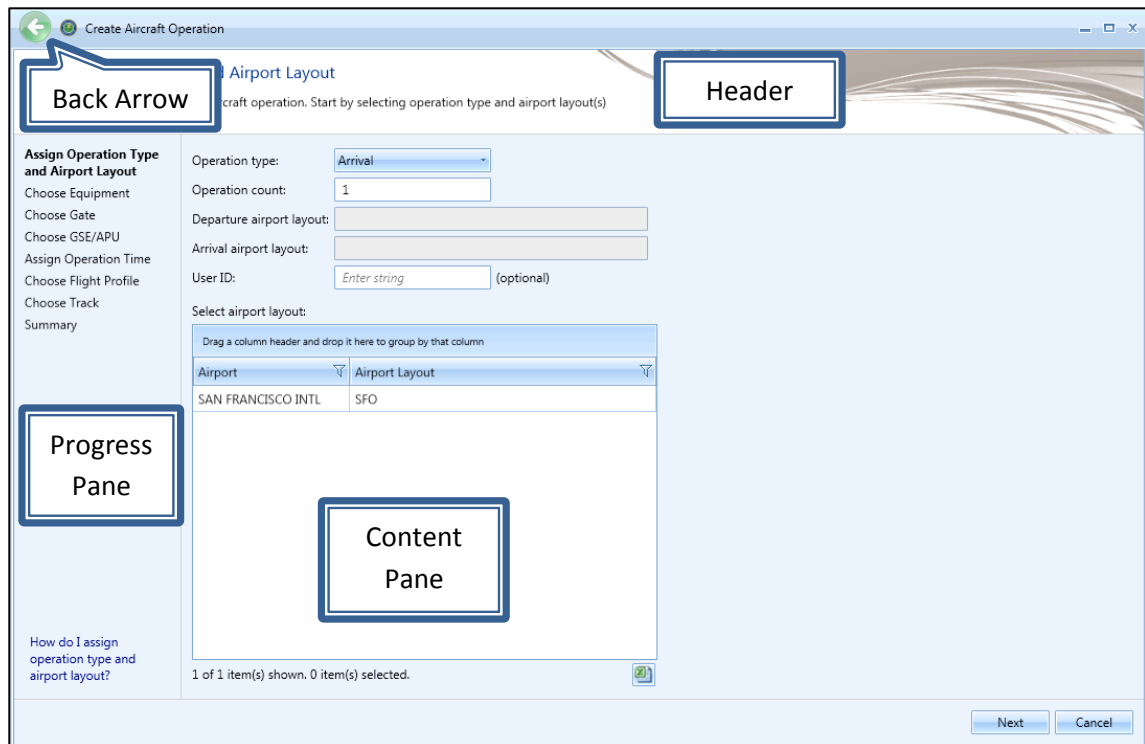

Figure 6-4 Create Aircraft Operation
2. In the *Aircraft Actions* ribbon group, click *New* to open the *Create Aircraft Operation* wizard (Figure 6-4).